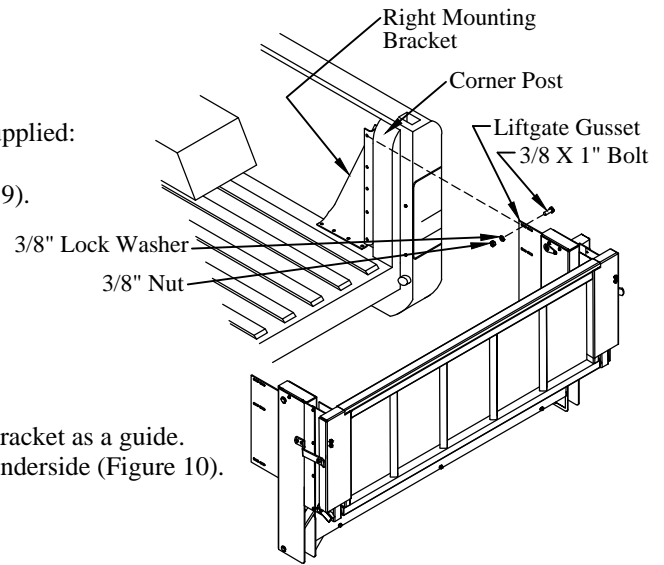

Figure 9: Mounting bracket and liftgate.
1. Position the mounting brackets into the truck bed in front of the corner posts (Figure 9).
- (3) 3/8"x1" hex head bolts on the bracket-side (Figure 9).
- (3) 3/8" lock washers, and (3) 3/8" nuts on the gusset-side (Figure 9).
7. Drill two (2) 3/8" holes into the truck bed floor using two holes in the bracket as a guide.